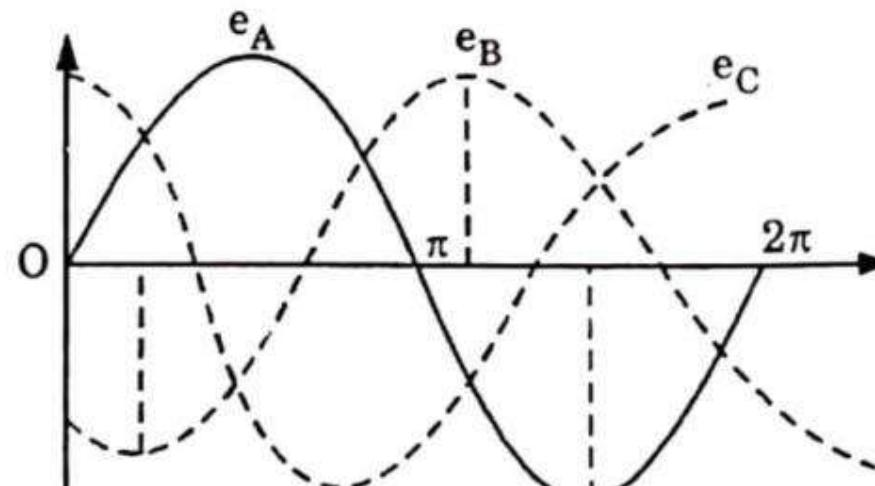

Fig. 4.32.2. Voltage wave shapes of 3φ alternator.
4. Since induced emf e is directly proportional to flux density (if l and v is made constant, the emf wave will be identical to the flux density wave). If the flux density produced by the field winding is sinusoidal the emf induced in phase coils will be sinusoidal as shown in Fig. 4.32.2.